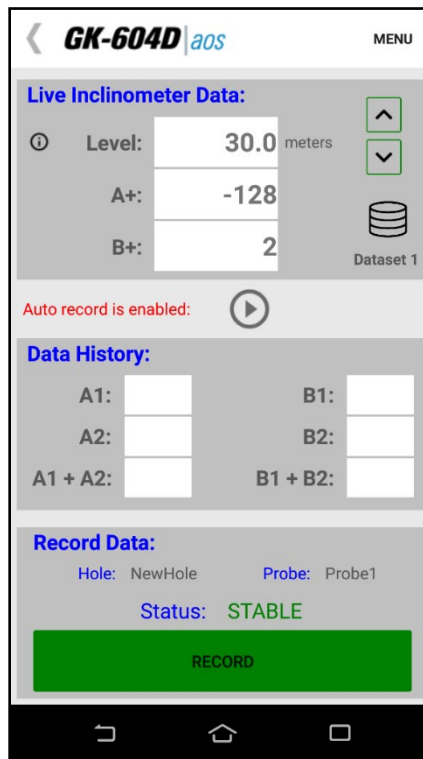

Figure 60 - Auto Record Enabled
If the System Configuration parameter, “Auto Record Data” is set to “On” (see Section 3.2.4.5), upon entry into the “Live Readings” screen, the “Auto Record” feature will be enabled (Figure 60).
- 1) From the “APP” menu, tapping on the “Live Readings” menu item displays the screen shown in Figure 60).